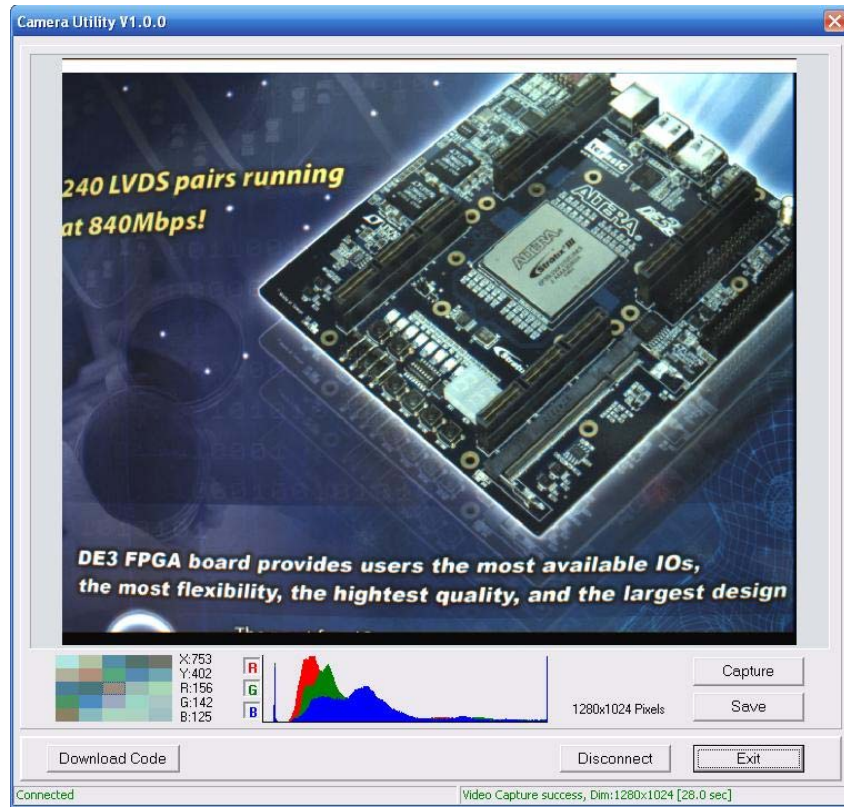

Figure 3.5. The DE2_70_camera tool
12. Users can upload the captured image to PC by clicking the 'Capture' button of the '*DE2_70_CAMERA.exe*' as shown in Figure 3.5. Meanwhile, the digital camera is set to photo-taking mode. Press **KEY3** to switch back to FREE RUN mode.